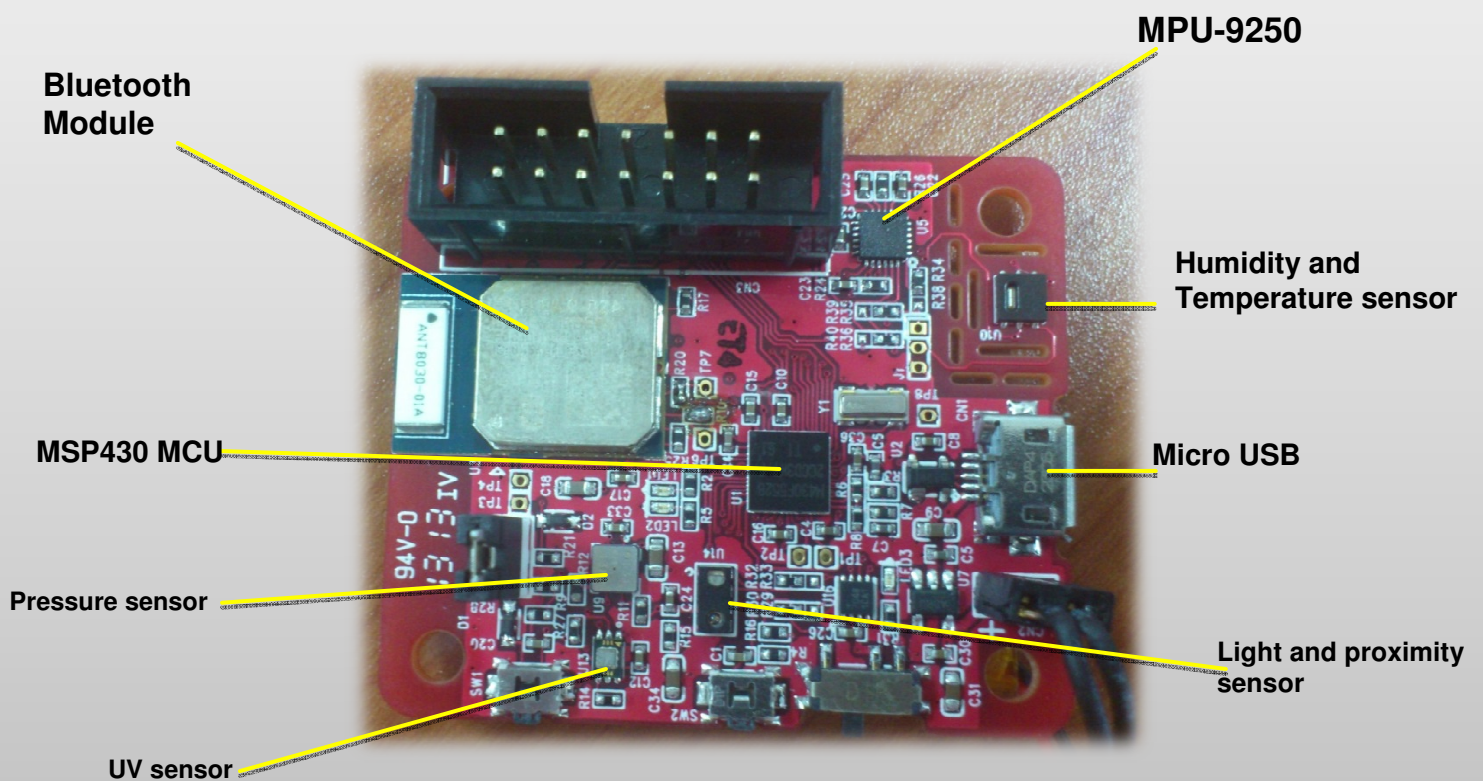

Figure 4.1.0 MPU 9250 CA-SDK™ Board
- Configure the Bluetooth interface on the PC. Go to “control Panel\All Control Panel Items\Devices and Printers\” then choose “Add a device” and choose blue “BlueRadios” device. (figure 4.1.0)